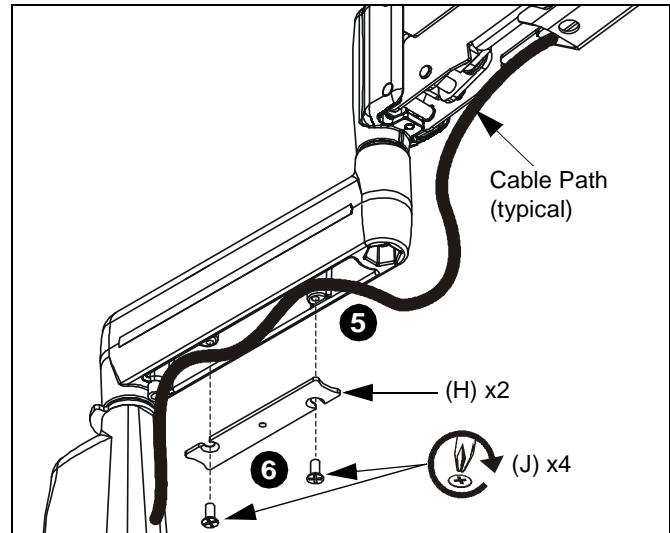

Figure 11
5. Carefully insert cables in cavity located in lower portion of mount arm (See Figure 11).
6. Using Phillips screwdriver, install two covers (H) with four screws (J).